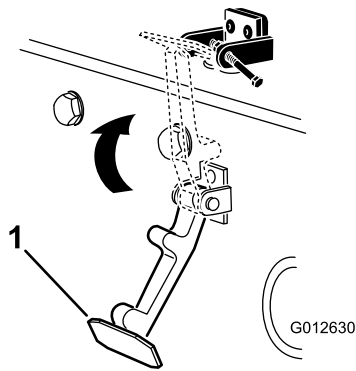

Figure 5
8. Hook the latch onto the hood-latch bracket (Figure 5).